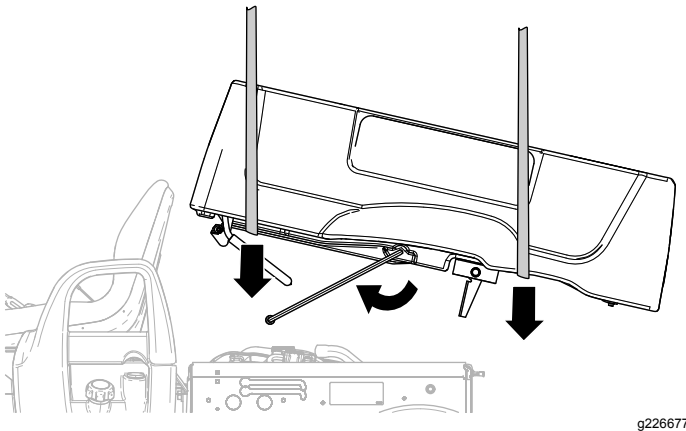
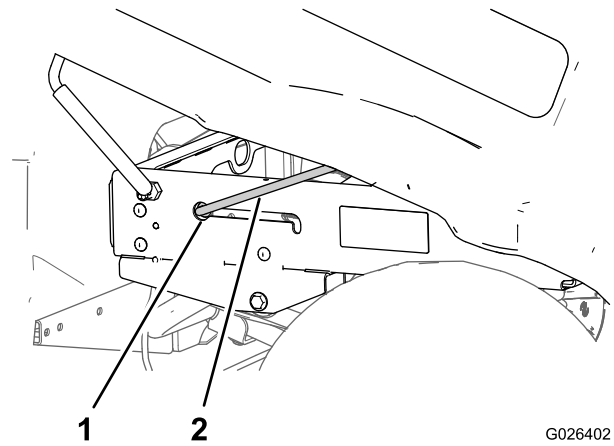

Figure 13
Figure 14
1. Rotate the cargo bed so that the hinge-bracket assembly and prop rod are facing downward (Figure 13).
2. Using lifting equipment at the front and rear of the cargo bed, raise the cargo bed, and align it over the frame of the machine with the hinge-bracket assembly facing rearward (Figure 13).
3. Adjust the height and position of the lifting equipment so that the short leg of the prop rod is aligned with the detent slot at the end of the prop rod slot in the left frame channel or prop rod bracket (Figure 13).
4. Rotate the prop rod forward and insert the short leg of the rod through the detent slot (Figure 13 and Figure 14).
5. Move the cargo bed and prop rod rearward until the hinge-bracket assembly aligns over the rear frame channel (Figure 14).